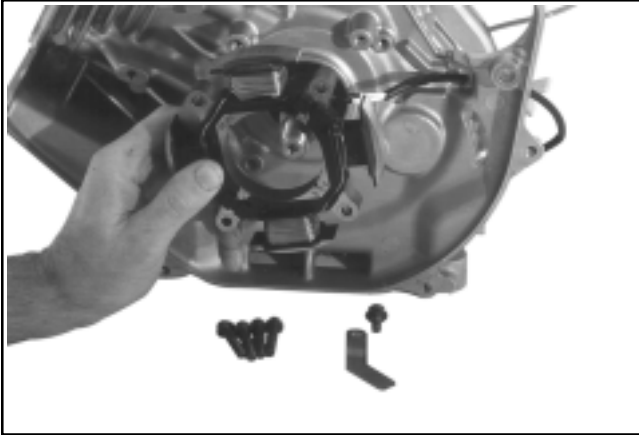

Figure 9-52. Removing Mounting Screws and Stator.
2. Remove the four hex. flange shoulder screws securing the stator to the crankcase. Remove the stator and pull the wires through the opening in the casting. See Figure 9-52